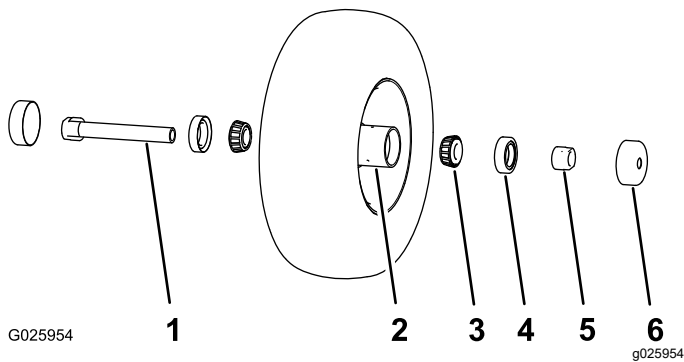

Figure 27
1. Remove the 2 seal guards from the wheel hub (Figure 27).
2. Remove 1 of the spacer nuts from the axle assembly in the caster wheel (Figure 27).
**Note:** Note that thread-locking adhesive has been applied to lock the spacer nuts to the axle (Figure 27).
3. Remove the axle (with the other spacer nut still assembled to it) from the caster-wheel assembly (Figure 27).
4. Pry out both of the bearing seals (Figure 27).
5. Remove both of the bearings and inspect each of them for wear or damage (Figure 27).
1. Install 1 bearing into the hub of the wheel (Figure 27).
2. Install the bearing seal into the hub at the bearing (Figure 27).
- C. Thread the axle nut, with the wrench flats facing outward, onto the end of the axle that is prepared with thread-locking compound (Figure 27).
4. Insert the assembled nut and axle into the wheel at the side of the wheel with the new seal and bearing (Figure 27).
6. Install the other bearing and new seal into the wheel (Figure 27).
9. Install the seal guards over the wheel hub (Figure 27).